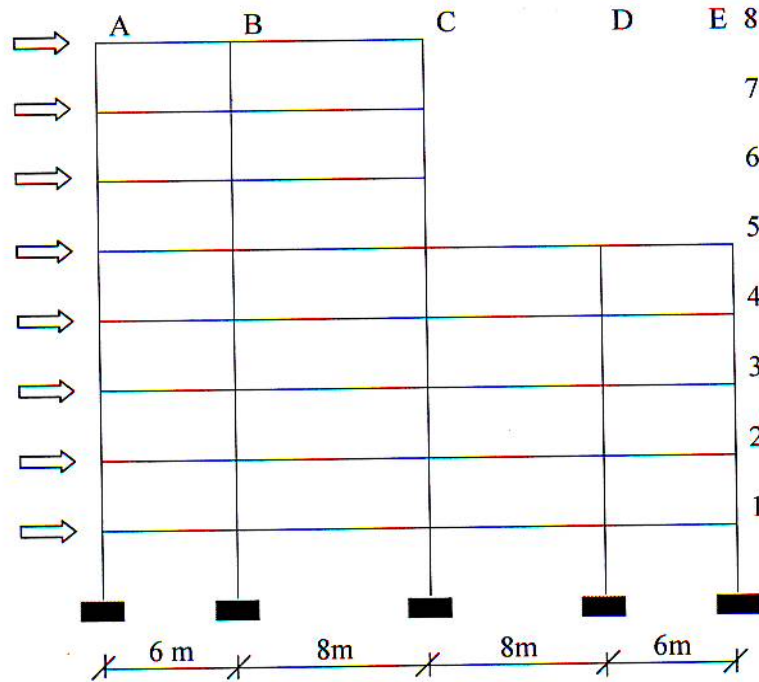

Figure 7
- b) Eight storey rigid frame building with setback as shown in Figure 7 is located in Bintulu with terrain category 3. Calculate the value of the design wind force from first floor to roof level of the frame as shown in Figure 7 according to MS1553:2002. The storey height is typically 3.0 m, with a total height of 24m. The frames are spaced at 6m, the width of building is 28 m and the length is 40m. Please indicate all assumed values used in the calculations.